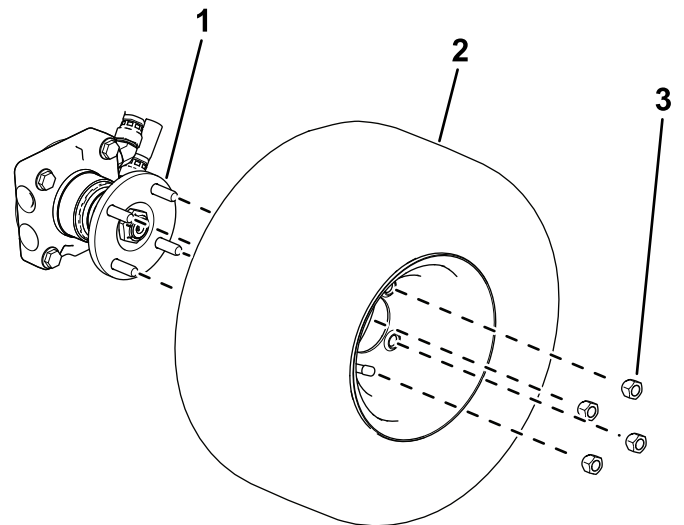

Figure 3
1. Use 4 lug nuts to secure the wheel to the wheel hub (Figure 3).